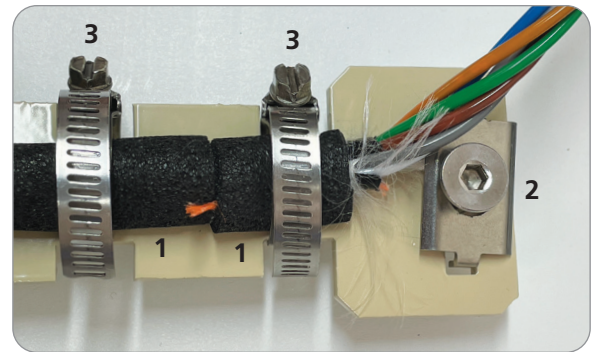

Figure 13
For Thin-Walled Jettable Micro Cables (Figure 13)
1. Apply a layer of adhesive foam around the cable at both hose clamp locations (#1 in Figure 13).
2. Trim central strength member to 1–1.25" so it extends under the strength member bolt clamp. Hand-tighten the retention bolt using a 1/4" hex-head tool (#2 in Figure 13).
3. Secure cable to the bottom plate bracket with the hose clamps. Hand-tighten hose clamps with 3/8" tool (#3 in Figure 13).